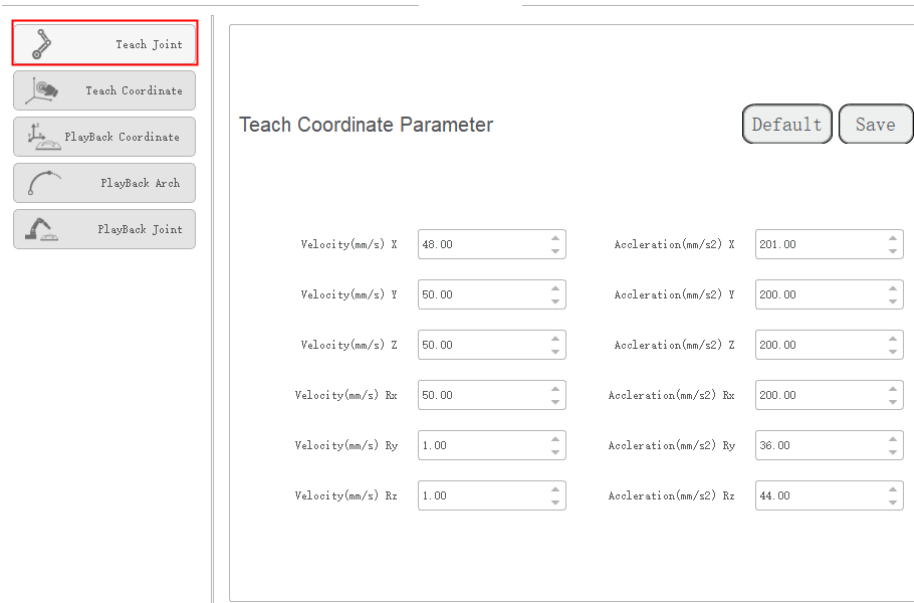

Figure 1.2 Jogging parameters in the Joint coordinate system
- **Teach Joint Parameter:** Set the maximum velocity and acceleration in the Joint coordinate system when jogging a robot. The jogging parameters of a 6-axis robot in the Joint coordinate system are as shown in Figure 1.2.